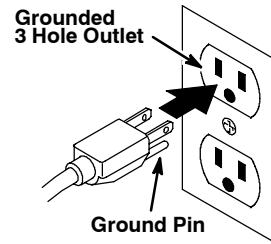

FIG. 8
- Plug power cord into a grounded outlet (Figure 8).